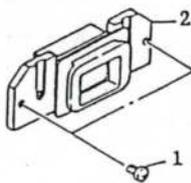

Fig.7
- (2) Take off two SCREWS (No.1) and remove the SPL PLATE (No.2).
7. Eyepiece frame (Fig.7)